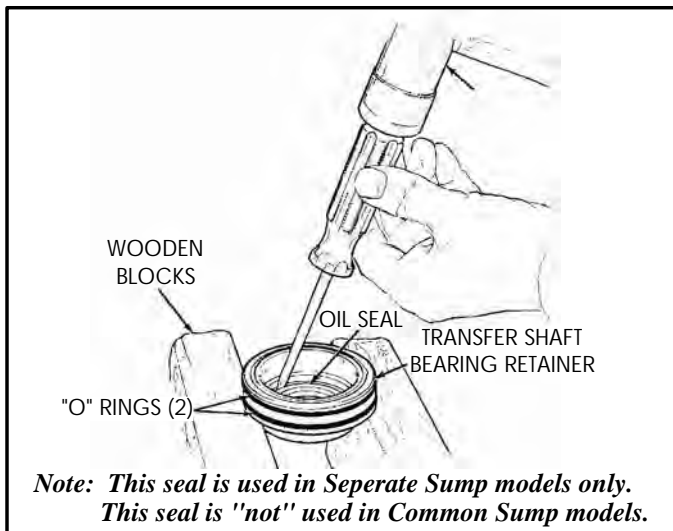

Figure 187
3. Remove and replace oil seal (if used), using the tools shown in Figures 187 and 188.